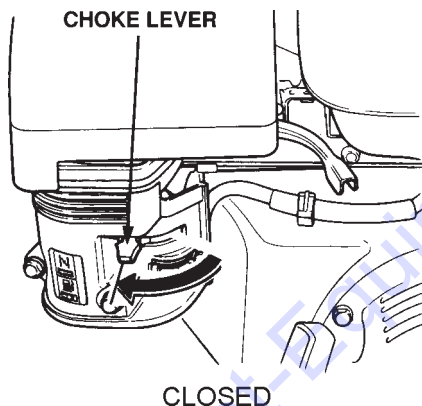

Figure 15. Engine Choke Lever (Closed)
- Place the **choke lever** (Figure 15) in the "**CLOSED**" position if starting a **warm engine** or the **temperature is warm**.
- If the engine has started, slowly return the choke lever (Figure 15) to the **CLOSED** position. If the engine has not started repeat steps 1 through 6.